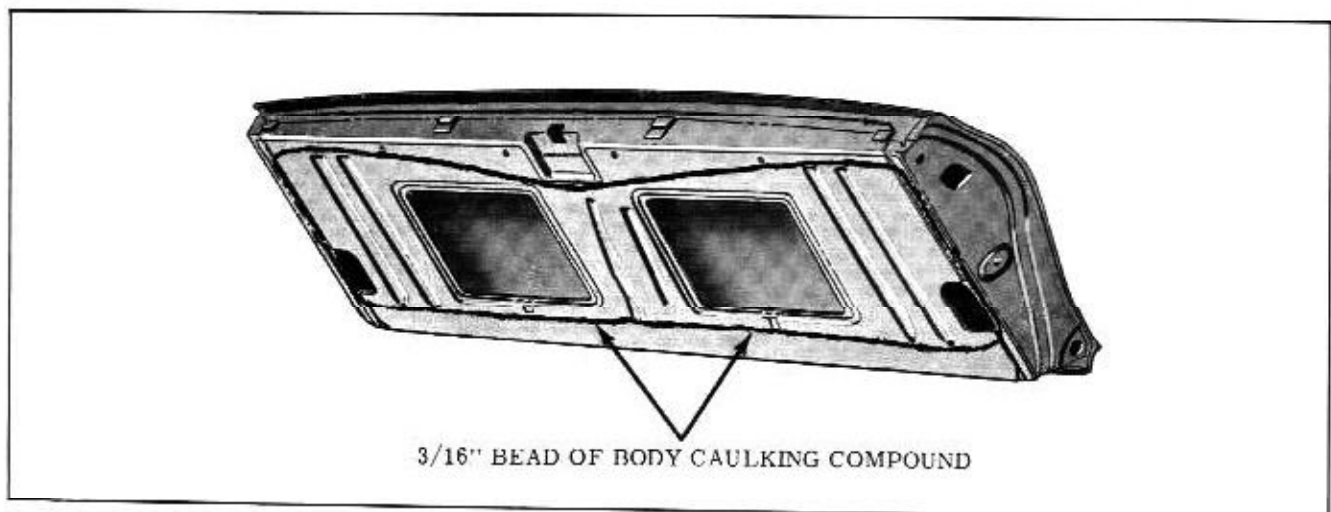

Fig. 17-200 Water Deflector Sealing
2. Carefully disengage deflector along top and sides inside cemented edge of deflector. (Fig. 17-200)
2. Apply body caulking as shown in Fig. 17-200, properly position water deflector and press firmly to obtain a good bond and seal.
2. Apply a bead of body caulking compound (approximately 3/16" diameter) to tail gate inner panel as indicated in Fig. 17-200.